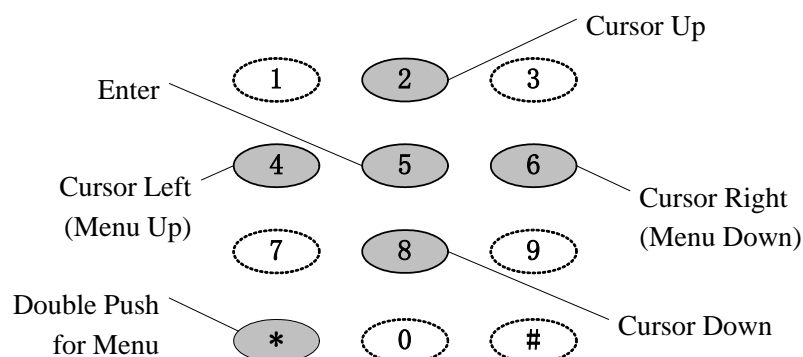

Fig. 4-12 Menu Key Definition
The telephone set at the LMX has another function, that is, act as handheld terminal to select menu items on the LCD screen on the side A of a LMX chassis, as shown in Fig. 4-10 (A). Double push on the asterisk key '\*\*' enters menu operation mode. In menu mode, keys 2, 4, 6, 8 are used as cursor movement keys, and key 5 act as enter key. The key definition is shown in Fig. 4-12. Hang up the phone leaves the menu mode.